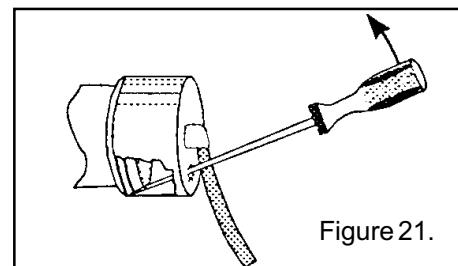

Figure 21.
4. Remove the snap-on cord cap by inserting a slotted screw driver into the access hole, as illustrated in Figure 21, and prying upwards.
3. Remove the snap-on cord cap by inserting a slotted screwdriver into the access hole and prying upwards, as illustrated in Figure 21, in the relamping instructions.